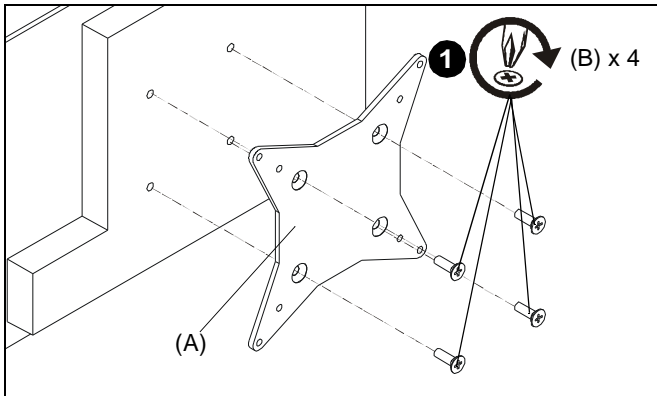

Figure 1
1. Use four M4 x 12mm flat head cap screws (B) to secure interface bracket (A) to back of display. (See Figure 1)